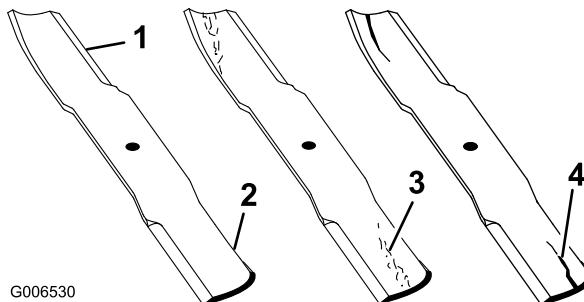

Figure 64
2. Inspect the cutting edges (Figure 64). If the edges are not sharp or have nicks, remove and sharpen the blades. Refer to Sharpening the Blades.
3. Inspect the blades, especially the curved area (Figure 64). If you notice any damage, wear, or a slot forming in this area (Figure 64), immediately install a new blade.